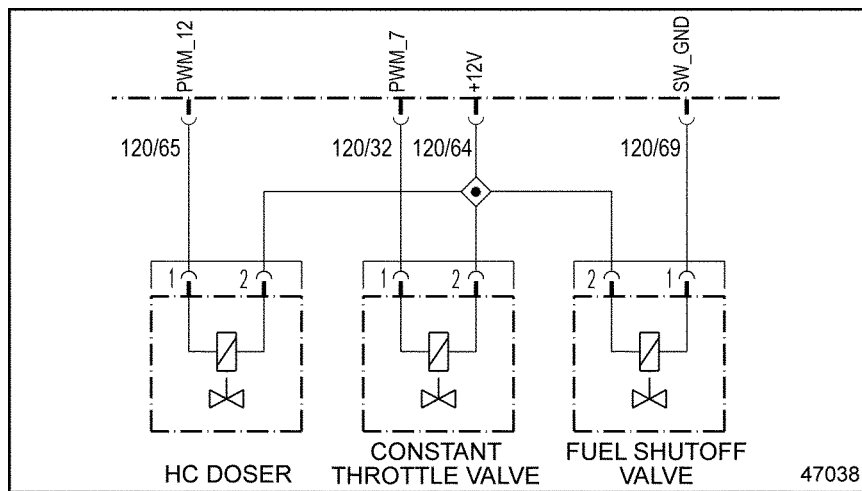

Figure 30-3 Constant Throttle Valve
- [a] If 3471/5 and 3482/5 are active with 701/5, repair the open between pin 64 of the 120-pin MCM connector and pin 2 of the Constant Throttle Valve and pin 2 of the Electronic Dosing Valve connector and pin 2 of the Fuel Shutoff Valve. See Figure 30-3. Refer to section 30.2.1.1.
- [a] If the voltage is between 11 and 13 volts, repair the open in the wire between pin 32 of the 120-pin MCM connector and pin 1 of the Constant Throttle Valve connector. See Figure 30-3. Refer to section 30.3.1.1.
- [b] If the voltage is less than 11 volts, repair the open in the wire between pin 64 of the 120-pin MCM connector and pin 2 of the Constant Throttle Valve connector. See Figure 30-3. Refer to section 30.3.1.1.